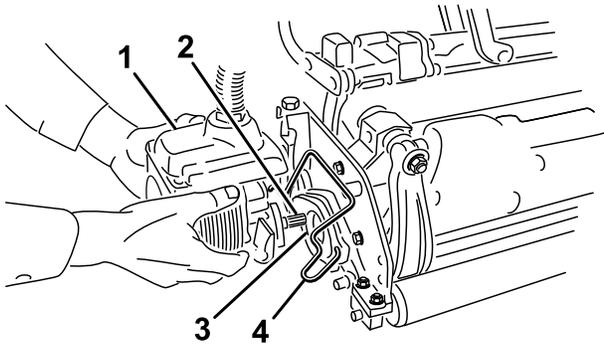

Figure 35
6. Coat the spline shaft of the cutting unit motor with clean grease (Figure 35).
7. Insert the motor into the left side of the cutting unit (as viewed from the operator's position) and pull the motor retaining bar on the cutting unit toward the motor until you hear an audible “click” from both sides of the motor (Figure 35).